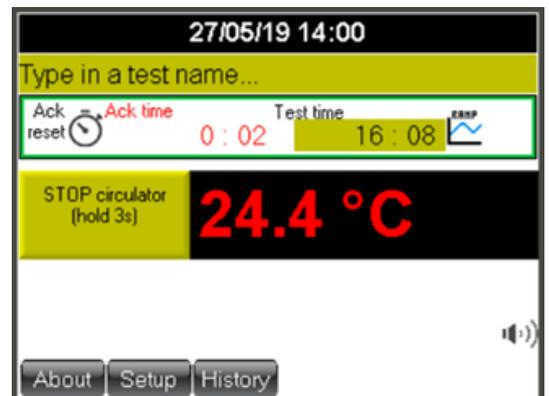

Figure 2.2.3a
1. One common test time for all cells when the temperature ramp is used. One time counting down the total test time and one time counting up an accumulating time, *see figure 2.2.3a*.